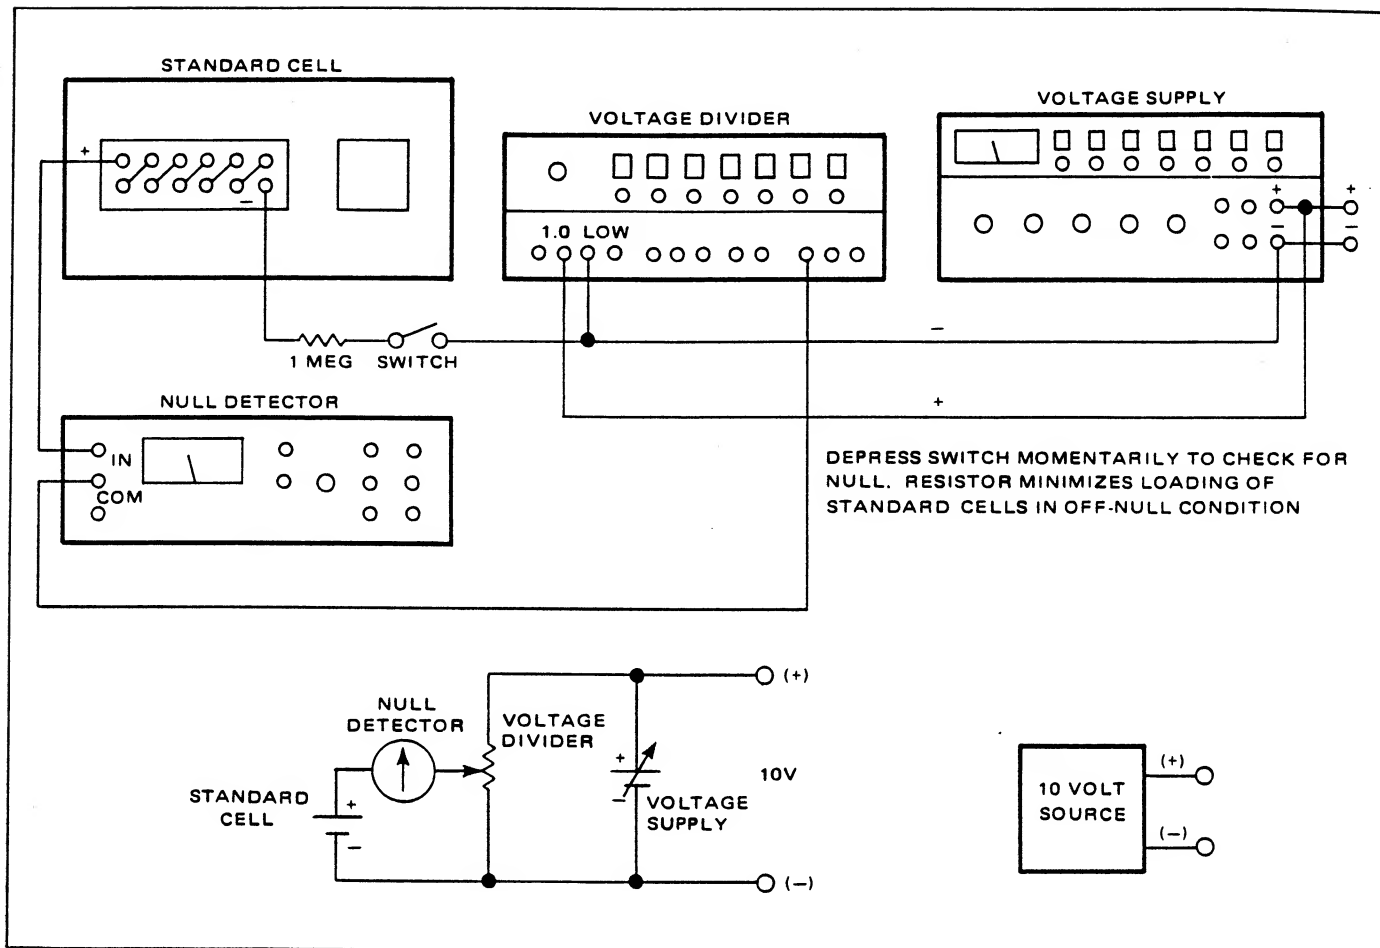

Figure 3.28 - 10 Volt Source
3.7.2.3.1 To produce voltage levels of necessary accuracy, special techniques are required. Suitable methods of generating these voltages are shown in Figures 3.28 and 3.29.
3.7.2.3.2.2 A source filling these requirements is shown in Figure 3.28. This circuit consists of a null detector, 7-decade voltage divider, a DC voltage supply, and a bank of saturated standard cells. Two advantages of this particular hookup are that; (a) there is minimal loading of the standard cells and (b) stability, not accuracy, is the primary requirement of the dc voltage supply.